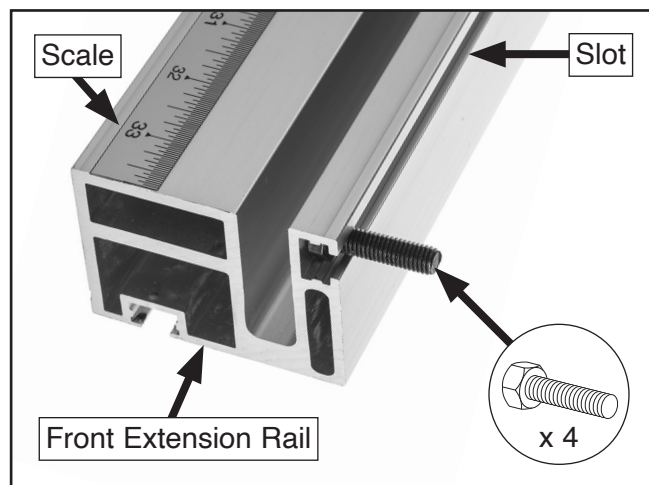

Figure 9. Example of hex bolt positioned in front extension rail slot.
11. Slide (4) M8-1.25 x 35 hex bolts into slot on right end of front extension rail, as shown in **Figure 9**.